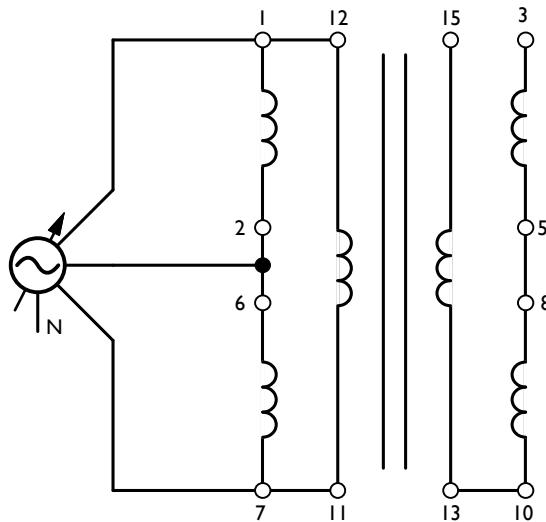

Figure 2.4: Three-Phase Transformer Connected in Delta-Delta
16. With the power off, connect the Three-phase Transformer module in the Δ - Δ configuration shown in Figure 2.4.